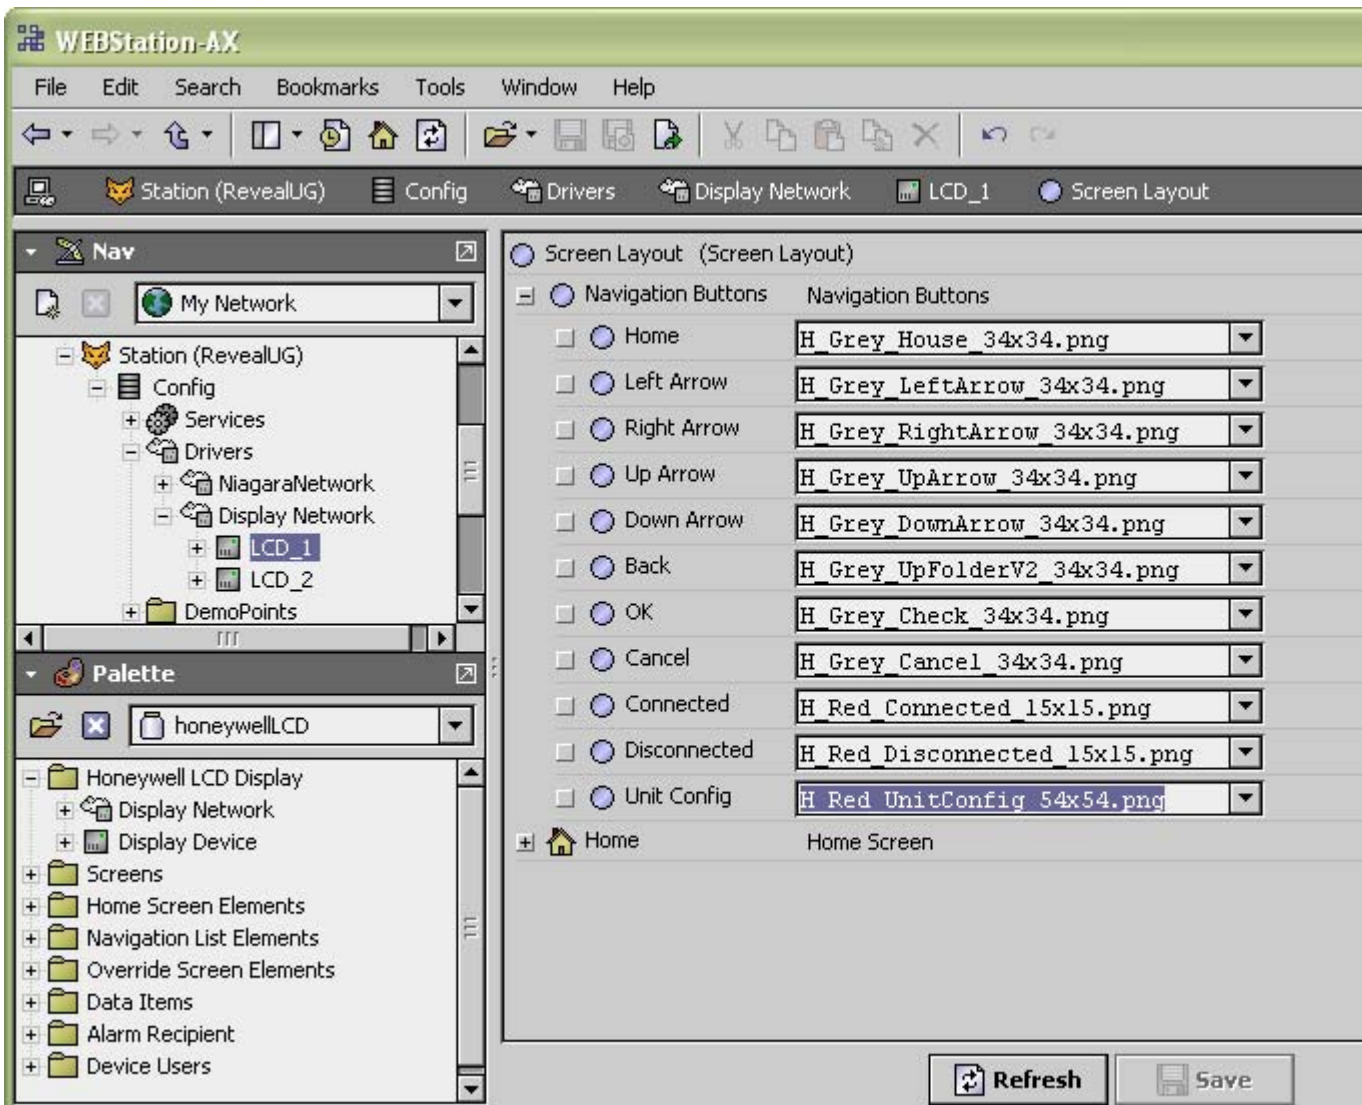

Fig. 17. Navigation button images drop-down list.
4. From the Screen Layout container's Property Sheet view, expand the Navigation Buttons node. See Fig. 17.